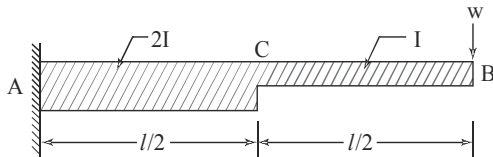

Fig. 2
8. (a) Find the slope and deflection at the free end of a cantilever shown in Fig. 2. Moment of inertia of AC is twice the moment of inertia of BC. (15)